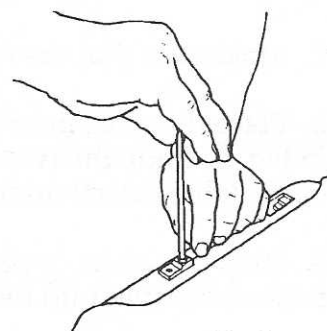

Fig.6
5. With a 5/32" Allen wrench, tighten the socket head screw in the mounting block. See Fig.6.